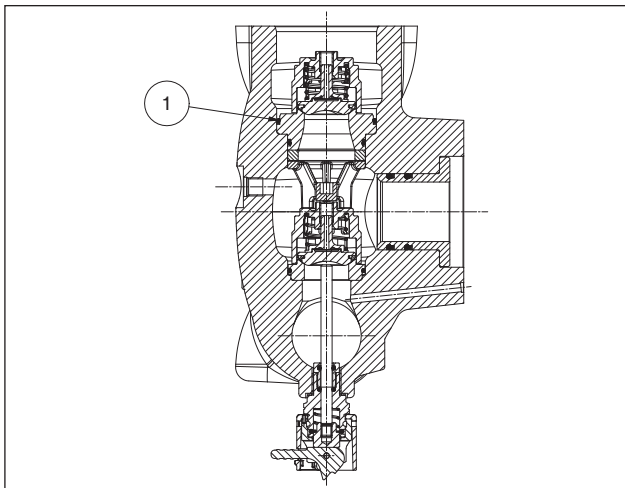

Fig. 124
Pay special attention to fitting the O-ring shown in pos. ①, Fig. 124. Use a special tool code 27516000 to prevent the O-ring getting cut during insertion.